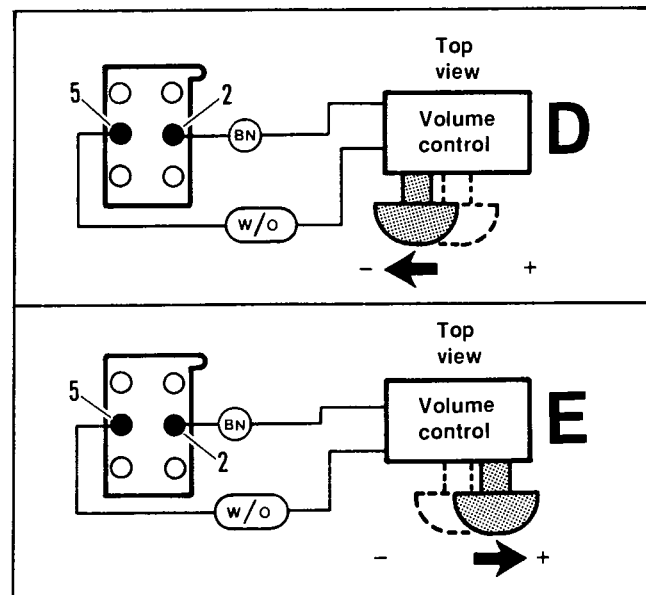

Figure 3. Volume Switch Test
4. Refer to Figure 3, View D. Place ohmmeter probes on connector pins (5) and (2), and move volume control knob to extreme left (when facing switch) or 'minus' side. Meter should register approximately two (2) ohms. Leave probes on pins (5) and (2), and move control knob to extreme right, or to 'plus' side. Meter should register 50,000 ohms. If meter readings vary significantly from the recommended readings, replace switch.